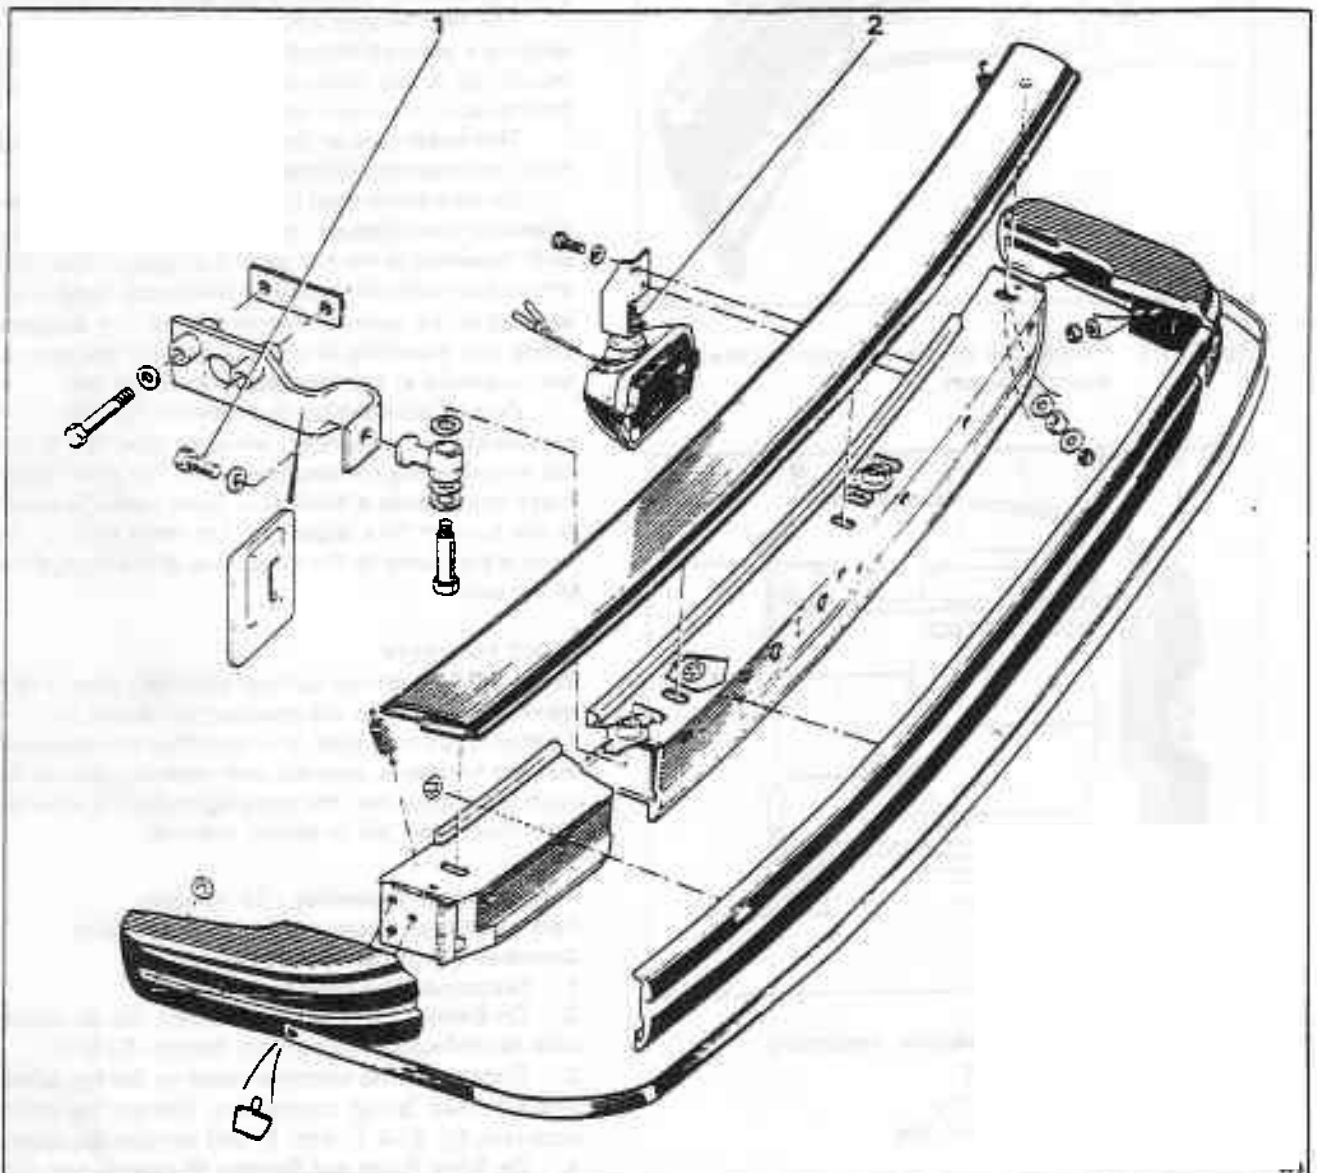

Fig. S14-1 Front bumper assembly
Cars other than those conforming to a North American specification (see fig. S14-1)
3. Disconnect the electrical leads to the fog lamps (if fitted) at their 'bullet' connectors. Release the retaining nuts (see fig. S14-1, item 2) and remove the lamps.
7. Remove the bolt securing each of the adapters to the mounting brackets (see fig. S14-1, item 1).